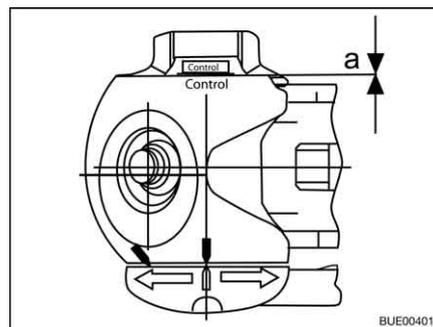

Fig. 202 Friction control
- Distance $a = 0$ (Fig. 202): Check and, if necessary, replace the friction pads.